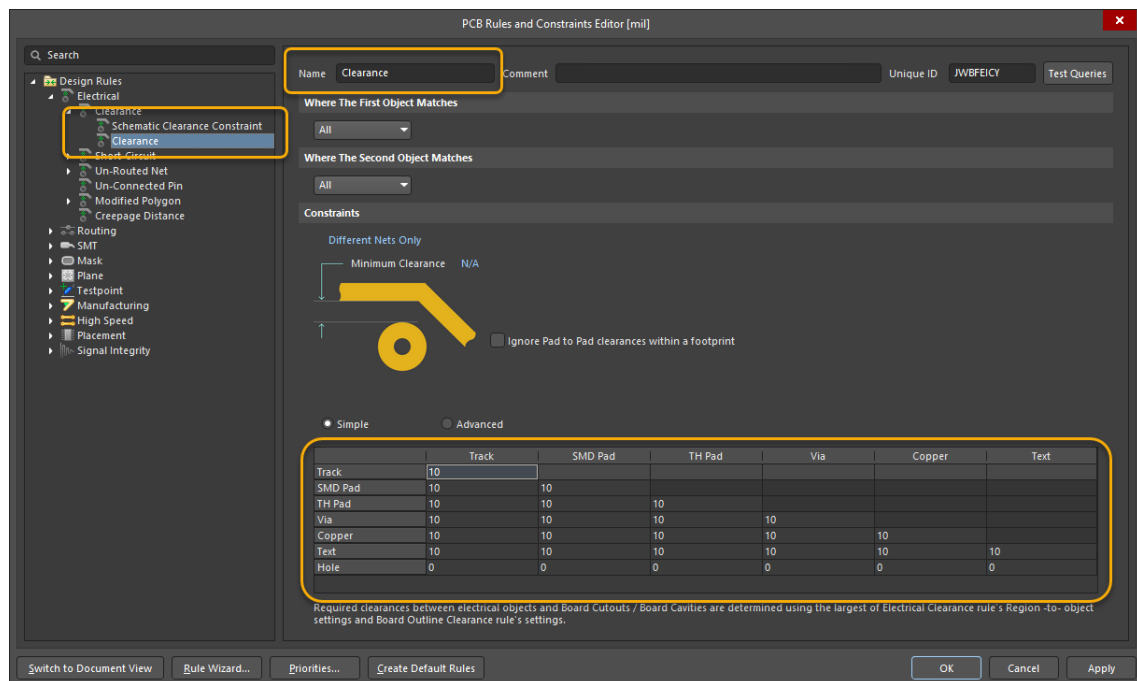

Figure 1. PCB Rules and Constraints Editor
11. The tree on the left lists the rule categories. Expand the *Electrical* rule category. Notice that there are 6 rule types within this category. This can be seen in Figure 1.
- d) Select the second rule to view the rule definition on the right of the window as shown in Figure 1.